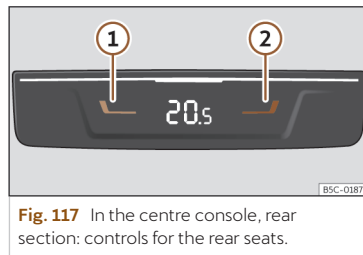

Fig. 117 In the centre console, rear section: controls for the rear seats.
- Press buttons  and  >>> **Fig. 117** to adjust the temperature of the rear zone.